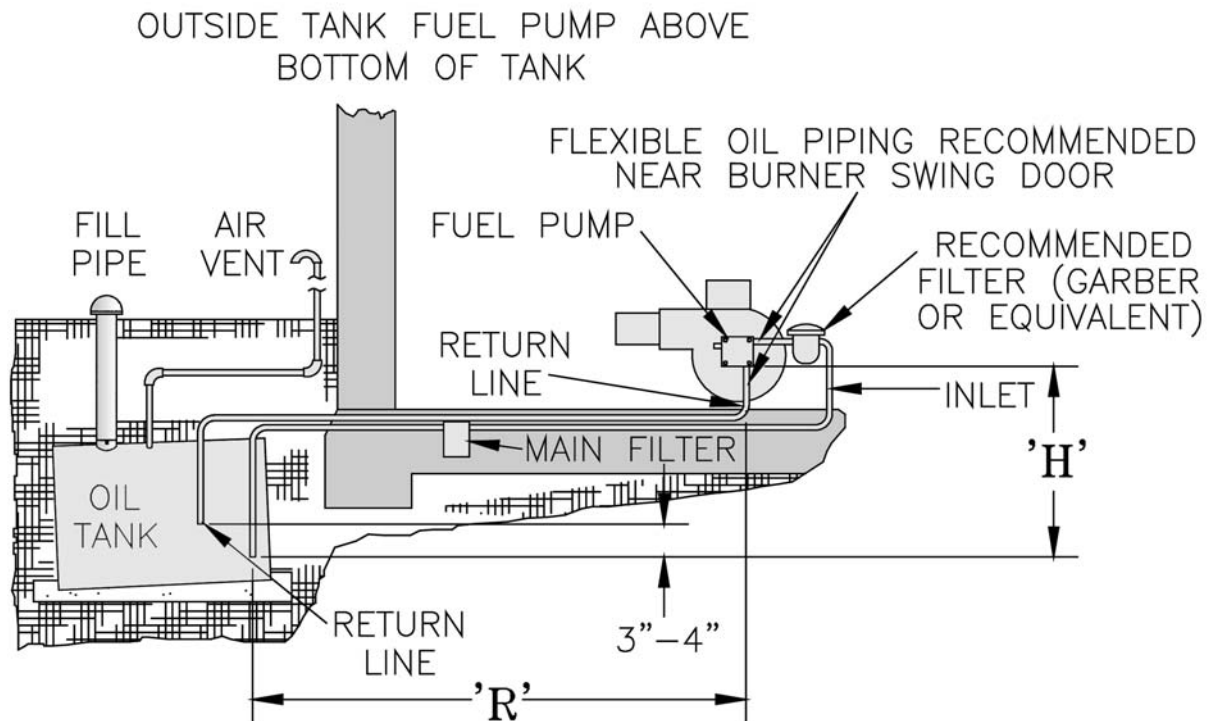

Figure 25: Two Pipe Oil Lines
- For two piped systems, where more lift is required, the two-stage fuel unit is recommended. Table 3 (two-stage) and Table 4 (single-stage) show allowable lift and lengths of 3/8 inch and 1/2 inch OD tubing for both suction and return lines. Refer to Figure 25.
Lift "H" (See Fig. 25)	Maximum Length of Tubing "H" + "R" (See Figure 25)